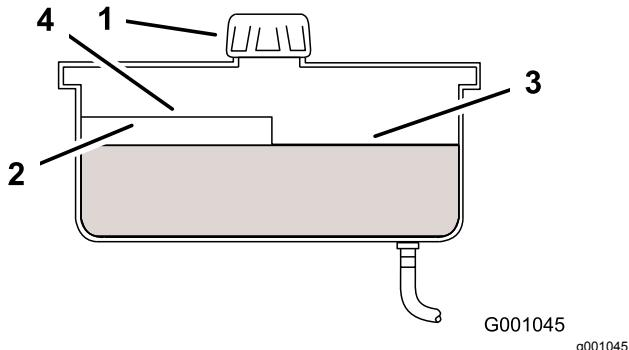

Figure 52
4. Clean area around cap and filler neck of hydraulic tank (Figure 52).
5. Remove cap from filler neck. Look inside to check if there is fluid in the reservoir (Figure 52).
Note: When the fluid is warm, the fluid level is at the top of the hot level of the baffle (Figure 52).